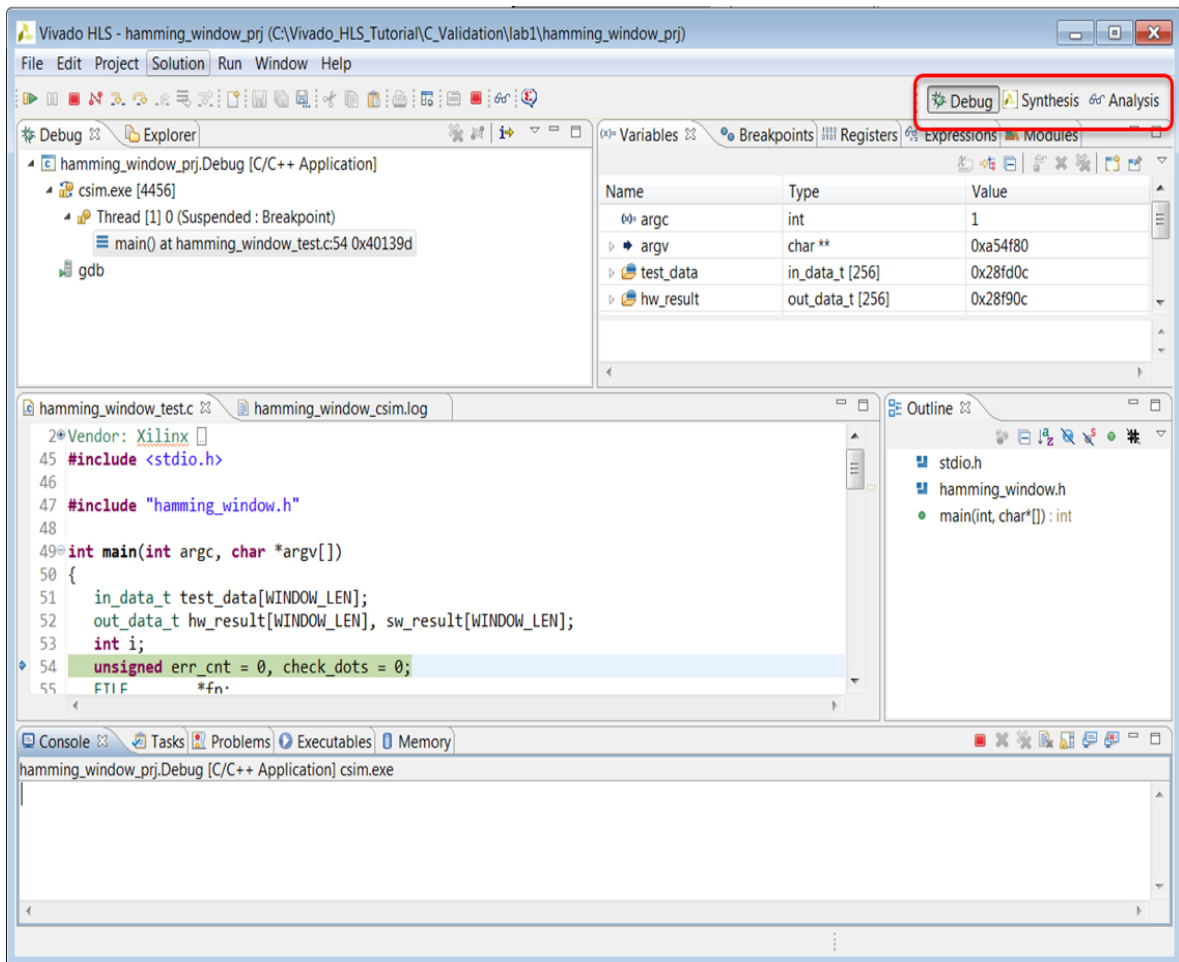

Figure 3-8: The HLS Debug Perspective
The Launch Debugger option compiles the C code and then opens the Debug environment, as shown in Figure 3-8. Before proceeding, note the following:
- Highlighted at the top-right in Figure 3-8, you can see that the perspective has changed from Synthesis to Debug. Click the perspective buttons to return to the synthesis environment at any time.